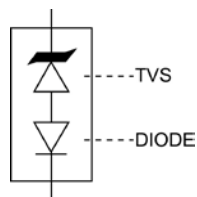
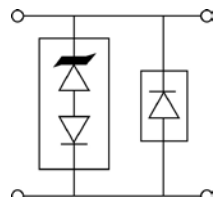

FIGURE 2
FIGURE 3
The TVS low capacitance device configuration is shown in figure 2. As a further option for unidirectional applications, an additional low capacitance rectifier diode may be used in parallel in the same polarity direction as the TVS as shown in figure 3. In applications where random high voltage transients occur, this will prevent reverse transients from damaging the internal low capacitance rectifier diode and also provide a low voltage conducting direction. The added rectifier diode should be of similar low capacitance and also have a higher reverse voltage rating than the TVS clamping voltage V_C . The Microsemi recommended rectifier part number is the "LCR80" for the application in figure 3. If using two (2) low capacitance TVS devices in anti-parallel for bidirectional applications, this added protective feature for both directions (including the reverse of each rectifier diode) is also provided. The unidirectional and bidirectional configurations in figure 3 and 4 will both result in twice the capacitance of figure 2.